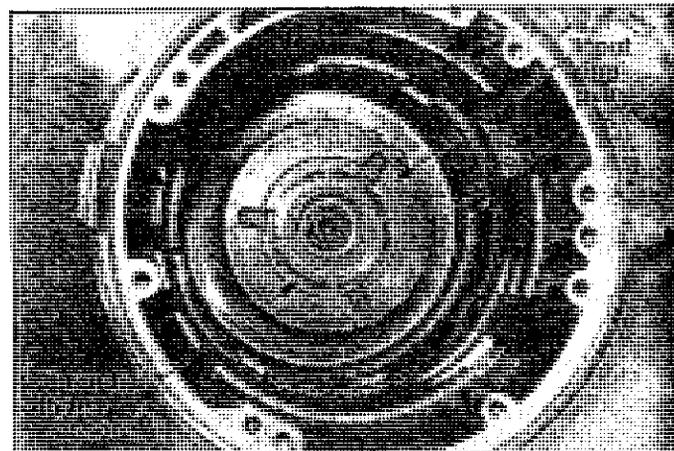

FIGURE 10
STEP 17. Remove the input ring gear. (See Fig. 10) This gear pulls straight out. Put the three-tab metal thrust washer on the front face of the ring gear in the oil pan. Set the ring gear aside. Remove the four-tab metal thrust washer from the front of the output planet carrier. Set it in the oil pan.